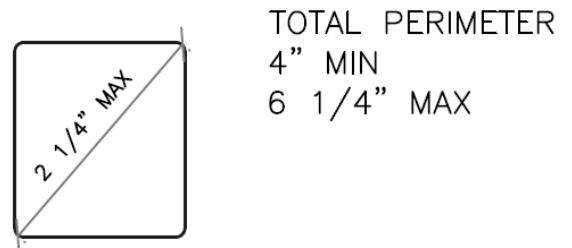

Figure 3. Noncircular handrail
- No noncircular handrail shall have a perimeter less than 4" (See Figure 3)
- If the perimeter is 4" – 6 1/4" shall have a maximum cross section of 2 1/4" (See Figure 3)